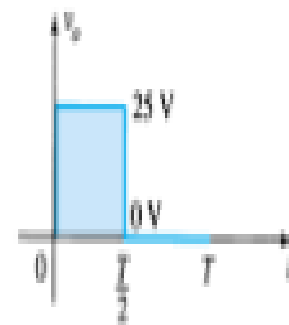

Figure 2.81 Sketching v_o for Example 2.21.
For $v_i = 20\text{ V}$ ($0 \rightarrow T/2$) the network of Fig. 2.79 will result. The diode is in the short-circuit state and $v_o = 20\text{ V} + 5\text{ V} = 25\text{ V}$. For $v_i = -10\text{ V}$ the network of Fig. 2.80 will result, placing the diode in the “off” state and $v_o = i_D R = (0)R = 0\text{ V}$. The resulting output voltage appears in Fig. 2.81.